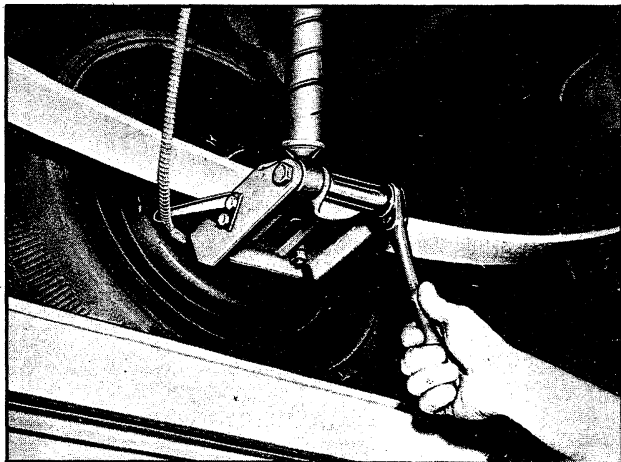

Fig. 28—Removing Shock Absorber Eye Bolt (Chevy II)
2. Loosen and remove shock absorber lower mounting bolt from shock absorber eye (fig. 28).